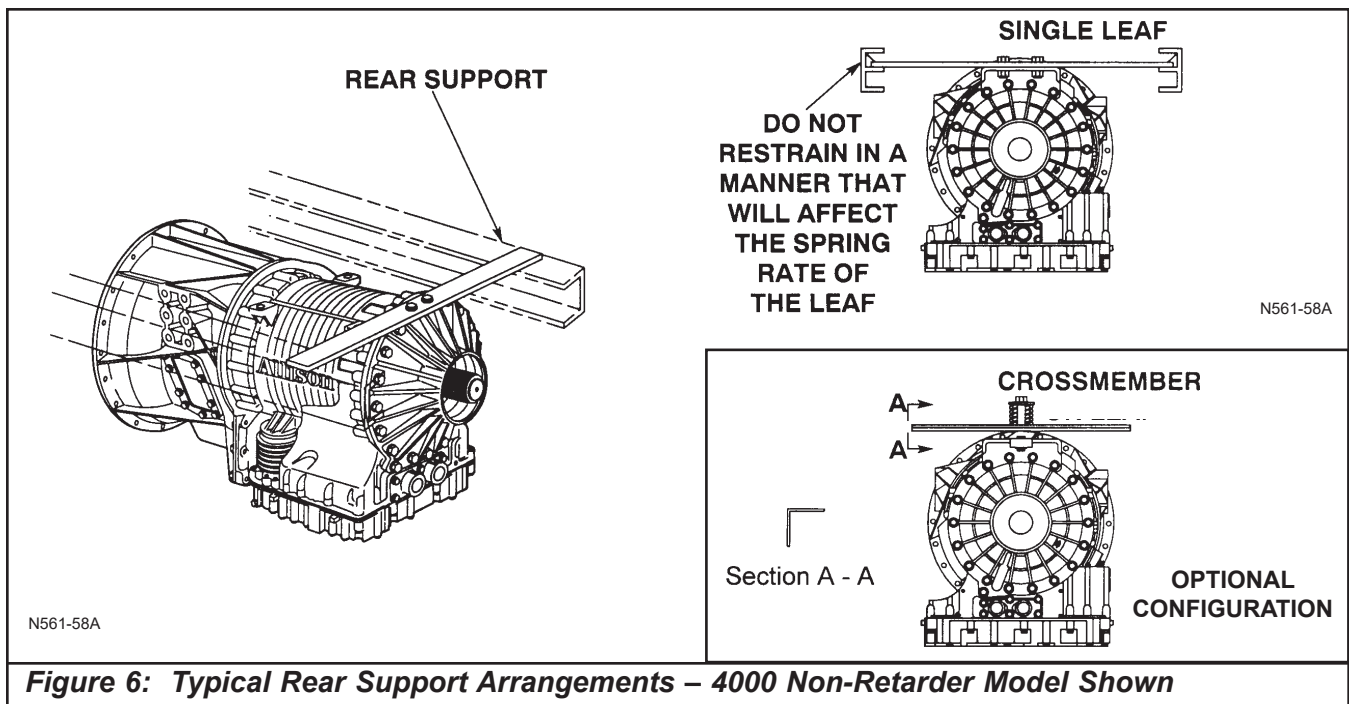

Figure 6: Typical Rear Support Arrangements – 4000 Non-Retarder Model Shown
- A rear support must be sufficiently flexible to permit frame flexing and powerpack roll without imparting a rotational load on the transmission. This is normally accomplished with a leaf spring or spring-loaded cross-member reacting to the vehicle frame as shown in Figures 6 and 7.